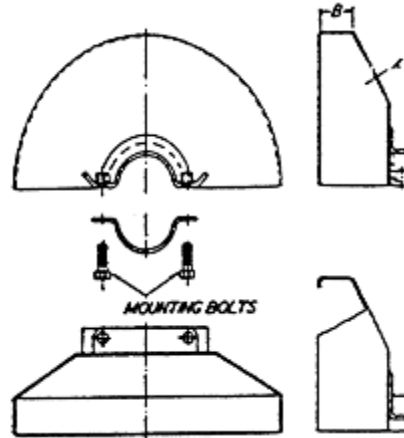

Figure 4
**(c) Vertical portable grinders.** Safety guards on machines known as right angle head or vertical portable grinders must have a maximum exposure angle of 180 degrees. Place the guard between the operator and the wheel during use. Adjust the guard to deflect pieces of a broken wheel away from the operator. (See Figure 4.)